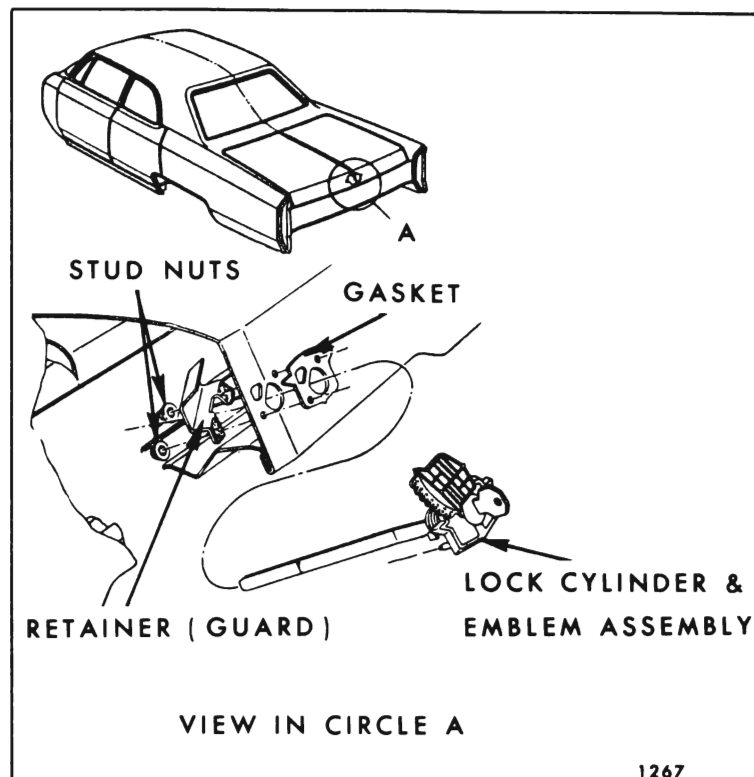

Fig. 9-12—Rear Compartment Lid Lock Cylinder and Emblem Assembly
- Remove guard through access hole, then remove compartment lid emblem and lock cylinder assembly from lid outer panel (Fig. 9-12).